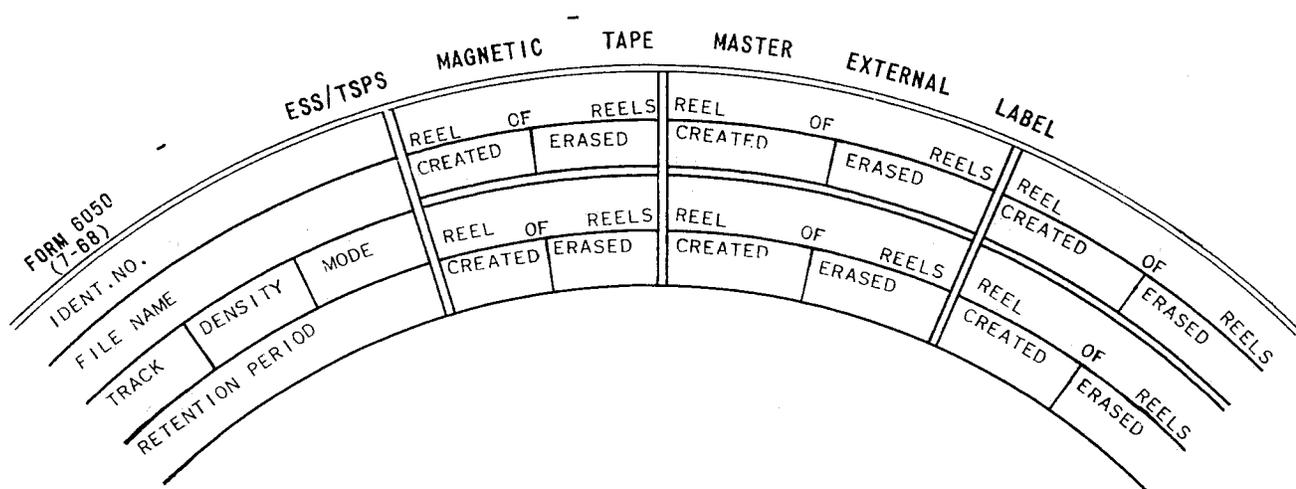

Fig. 5—Sample Form 6050, ESS/TSPS Magnetic Tape Master External Label
5.03 Form 6050, ESS/TSPS Magnetic Tape External Label (Fig. 5) shall be attached to each reel to provide additional identification to the EDP center.